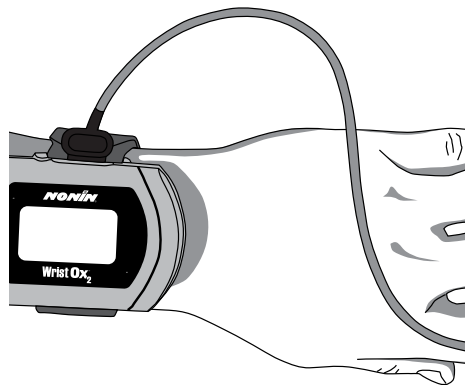

Figure 15: Apply Sensor to Patient
6. Apply the sensor to the patient (figure 15). Refer to the sensor Instructions for Use for proper sensor application sites and sensor application cautions and warnings.